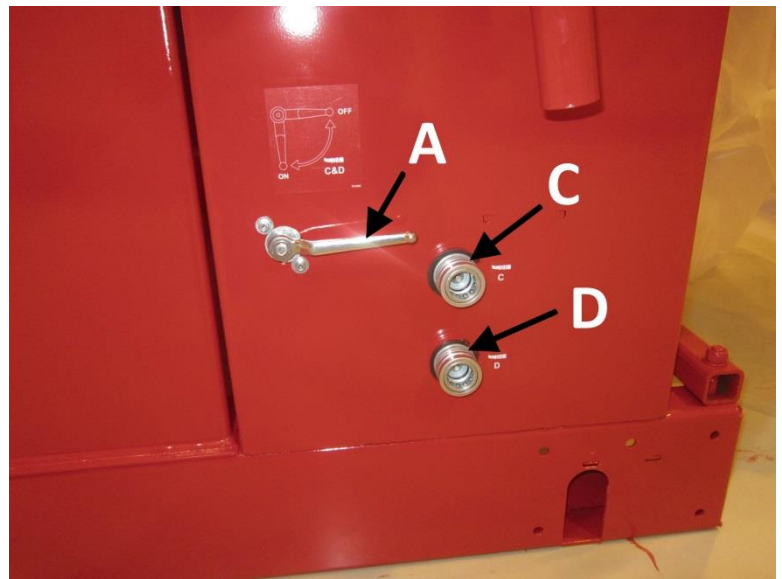

Figure 14.
1. Connect the auxiliary feed roller hoses to quick couplings C and D in Figure 14.
2. Open valve A in Figure 14, i.e. to the down, which allows oil to flow to quick couplings C and D shown in Figure 14.
3. Make sure that the rotation direction of the rollers is the same as the conveyor's direction. If necessary, change the order of the hoses in quick couplings C and D in Figure 14.
**Note! Always close valve A (turn it into the right) when quick couplings C and D in Figure 14 are not used!**